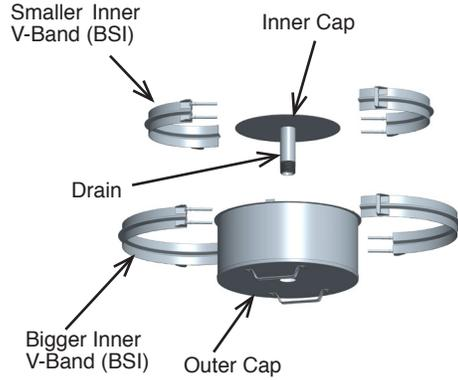

Figure 41: Drain Tee Cap (NTTC)
- 6- Secure with the bigger V-band (BSI) by tightening the retaining screw. See **Figure 41**
The Drain Cap (DTC) is used as a drain for the base of vertical installation and must be connected to a suitable disposable point. It can also be used as an access for cleanouts or access purpose. (See **Figure 41**) Same installation as a Tee Cap (TC).